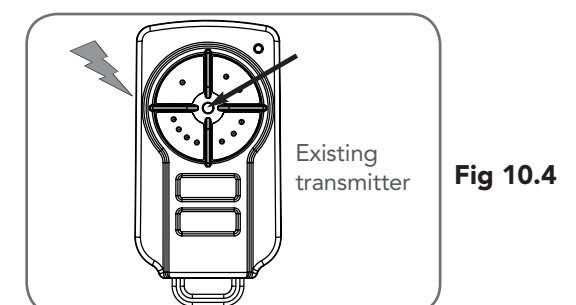

Fig 10.4
- Use a small pin / pen to press and hold through the Coding Hole of the existing transmitter for 2 seconds (**Fig. 10.4**).